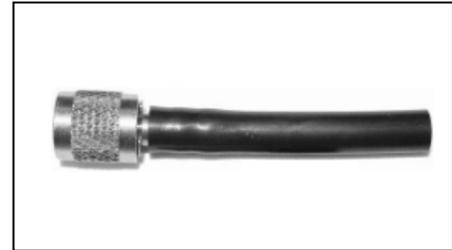

Figure 4
6. Install the correct EVAP Service Port Adapter that is provided with the tester. (Figure 4)